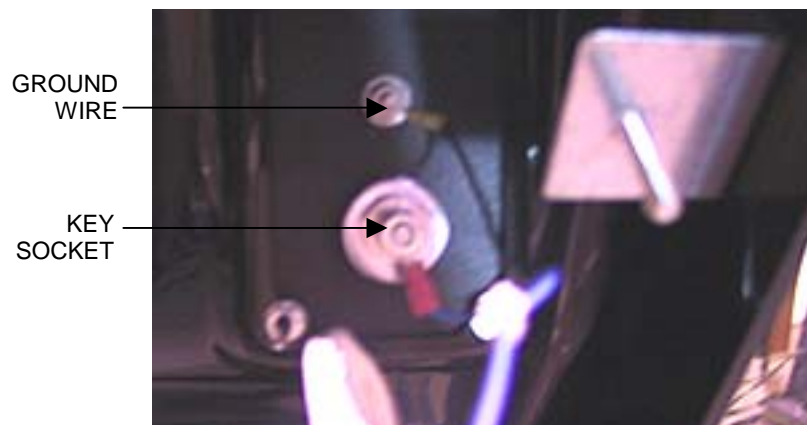

FIGURE 7 - KEY SOCKET AND GROUND WIRE CONNECTIONS
5. Proceed to the top of the bezel and remove the key socket wire and ground wire. See Figure 7. Also remove the wire connection to the coin mechanism on the opposite side of the bezel.
5. Return the bezel in place on top of the game, but do not secure it. Reconnect all wire connections attached to the bezel, including the key socket wire, ground wire (see Figure 7), coin mechanism and button controller connections.